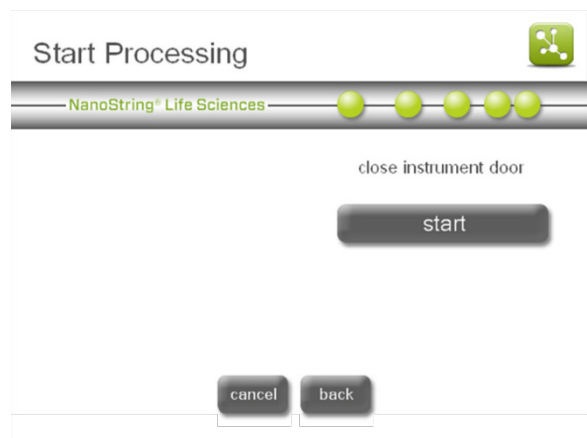

Figure 134: The 'Start Processing' screen.
- The 'Start Processing' screen will appear (Figure 134). Press **start** to initiate the protocol. Refer to Operating the Prep Station for further instructions.